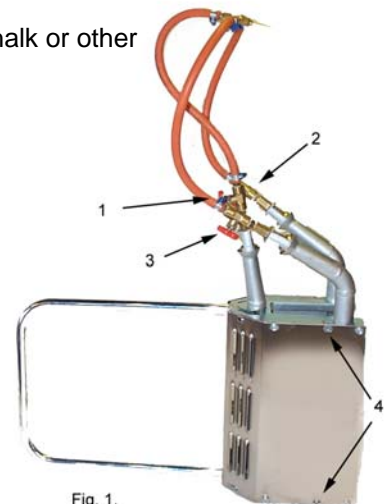

Fig. 1.
2. Place Heaty edgeways (see Figure 1).
The burners are preset for heating of 50 kg/meter (110lbs/39") rail profile. The times and temperatures given are for 50 kg/meter (110lbs/39") rail. The lateral burners can be readjusted by means of the adjustment screws No 4 Fig. 1.